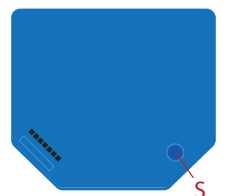

Fig.4/ Abb.4/ Imagen 4/ Image 4
- S: S button (Fig. 4)
- S: Die S-Taste (Abb. 4)
- S: Pulsante S (Fig. 4)